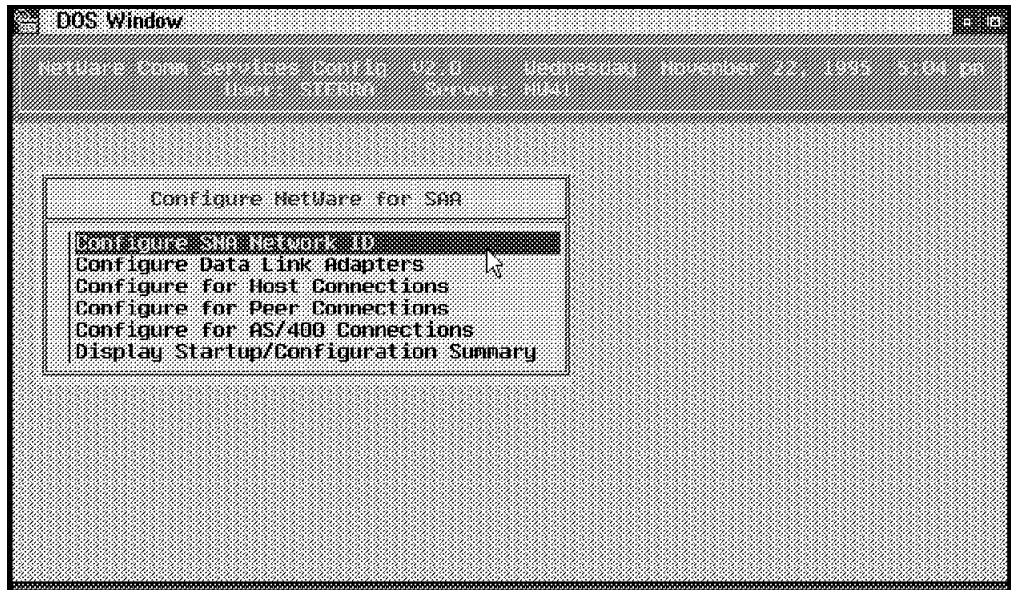
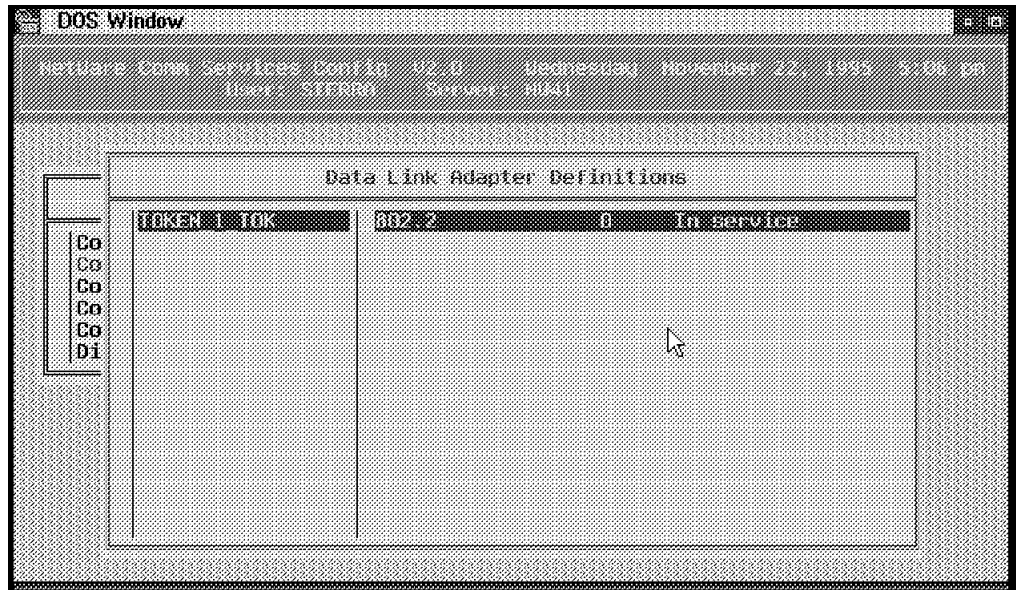

Figure 205. Configuring Communications for NetWare for SAA - Main Menu
Figure 207. Configuring Data Link Adapters - List of Adapters
Select **Configure Communication Services**, and choose **NetWare for SAA** in the window that appears. A panel is then displayed as shown in Figure 205 on page 206.
6. Quit the panel (press Esc). Once you are back to the panel as shown in Figure 205, select **Configure Data Link Adapters**. A panel then appears as shown in Figure 207 on page 207. You will see lines if you have already created some adapters.
Go back to the Main panel as shown in Figure 205 on page 206, then select **Configure for Host Connections**.
Press Esc to go back to the panel shown in Figure 205 on page 206.